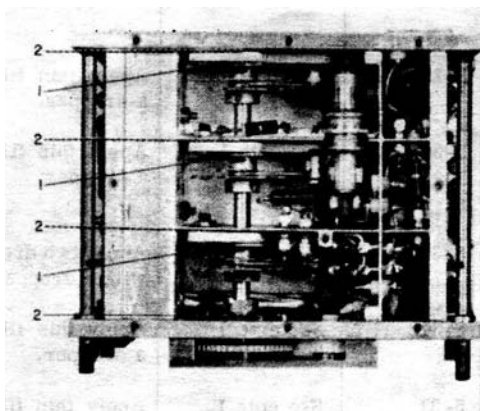

Figure 5-28. R-F and Power Amplifier Module, Left Side View, Lubrication Points
a. Lubrication instructions for the mechanical modules of Radio Receiver-Transmitter RT-695/PRC-41 are contained in table 5-15. Lubrication points are designated in figures 5-28 through 5-33. These procedures should be performed only on those assemblies that obviously require lubrication. If the